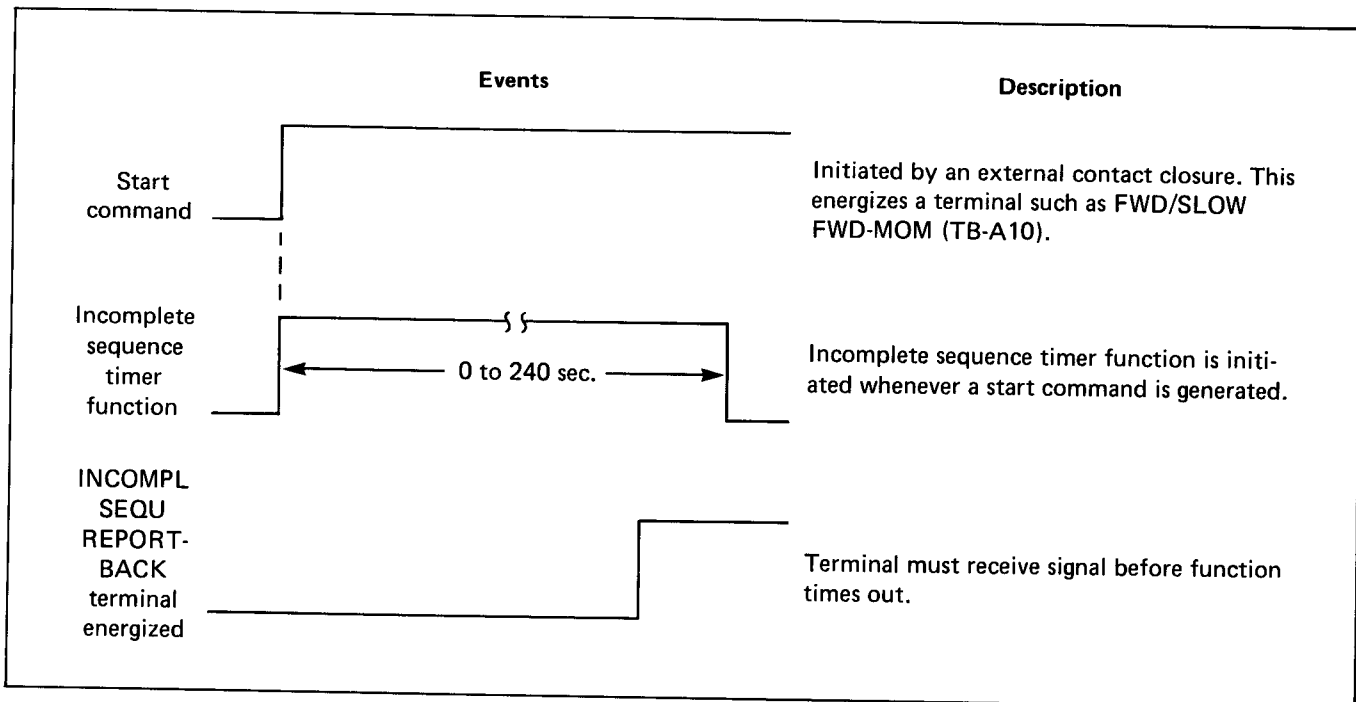

Figure 6.5 – Incomplete Sequence Events Diagram
6.17 Incomplete Sequence – The incomplete sequence setpoint function is applied during a start cycle. It initiates a stop cycle if, at the end of the programmed time, the report-back signal is not received at the INCOMPL SEQ REPORT-BACK terminal TB-A13. (See Figure 6.5.) Typical applications for this function include monitoring